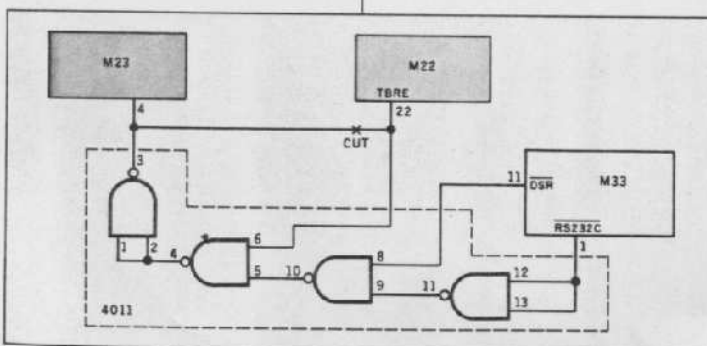

Figure 2. Soldering guide for the 4011's pins.
1. Carefully bend all the 4011's pins (Fig. 2), except for seven and 14, so that they stick straight out from the body.